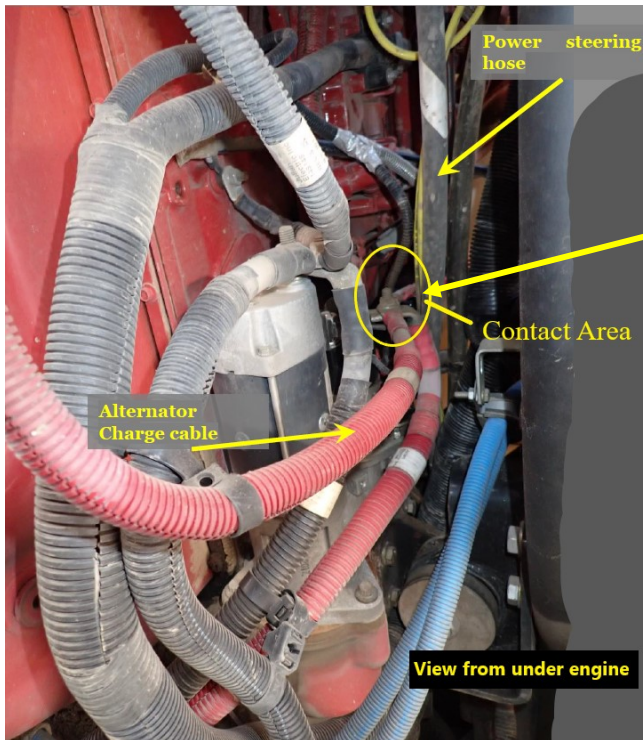
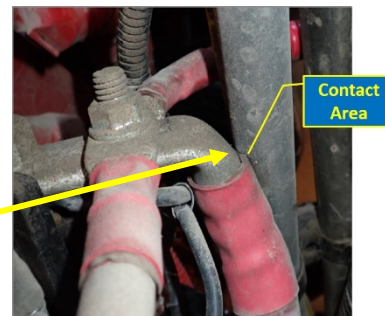

Fig. 2 Underside of Engine View of Cable Contact Area near Starter
Fig. 3, Close up of Cable Contact Area near Starter
4. Use Fig. 2 and Fig. 3 to identify the alternator charge/power cable. Inspect for contact point(s) between this cable, and the power steering hose.